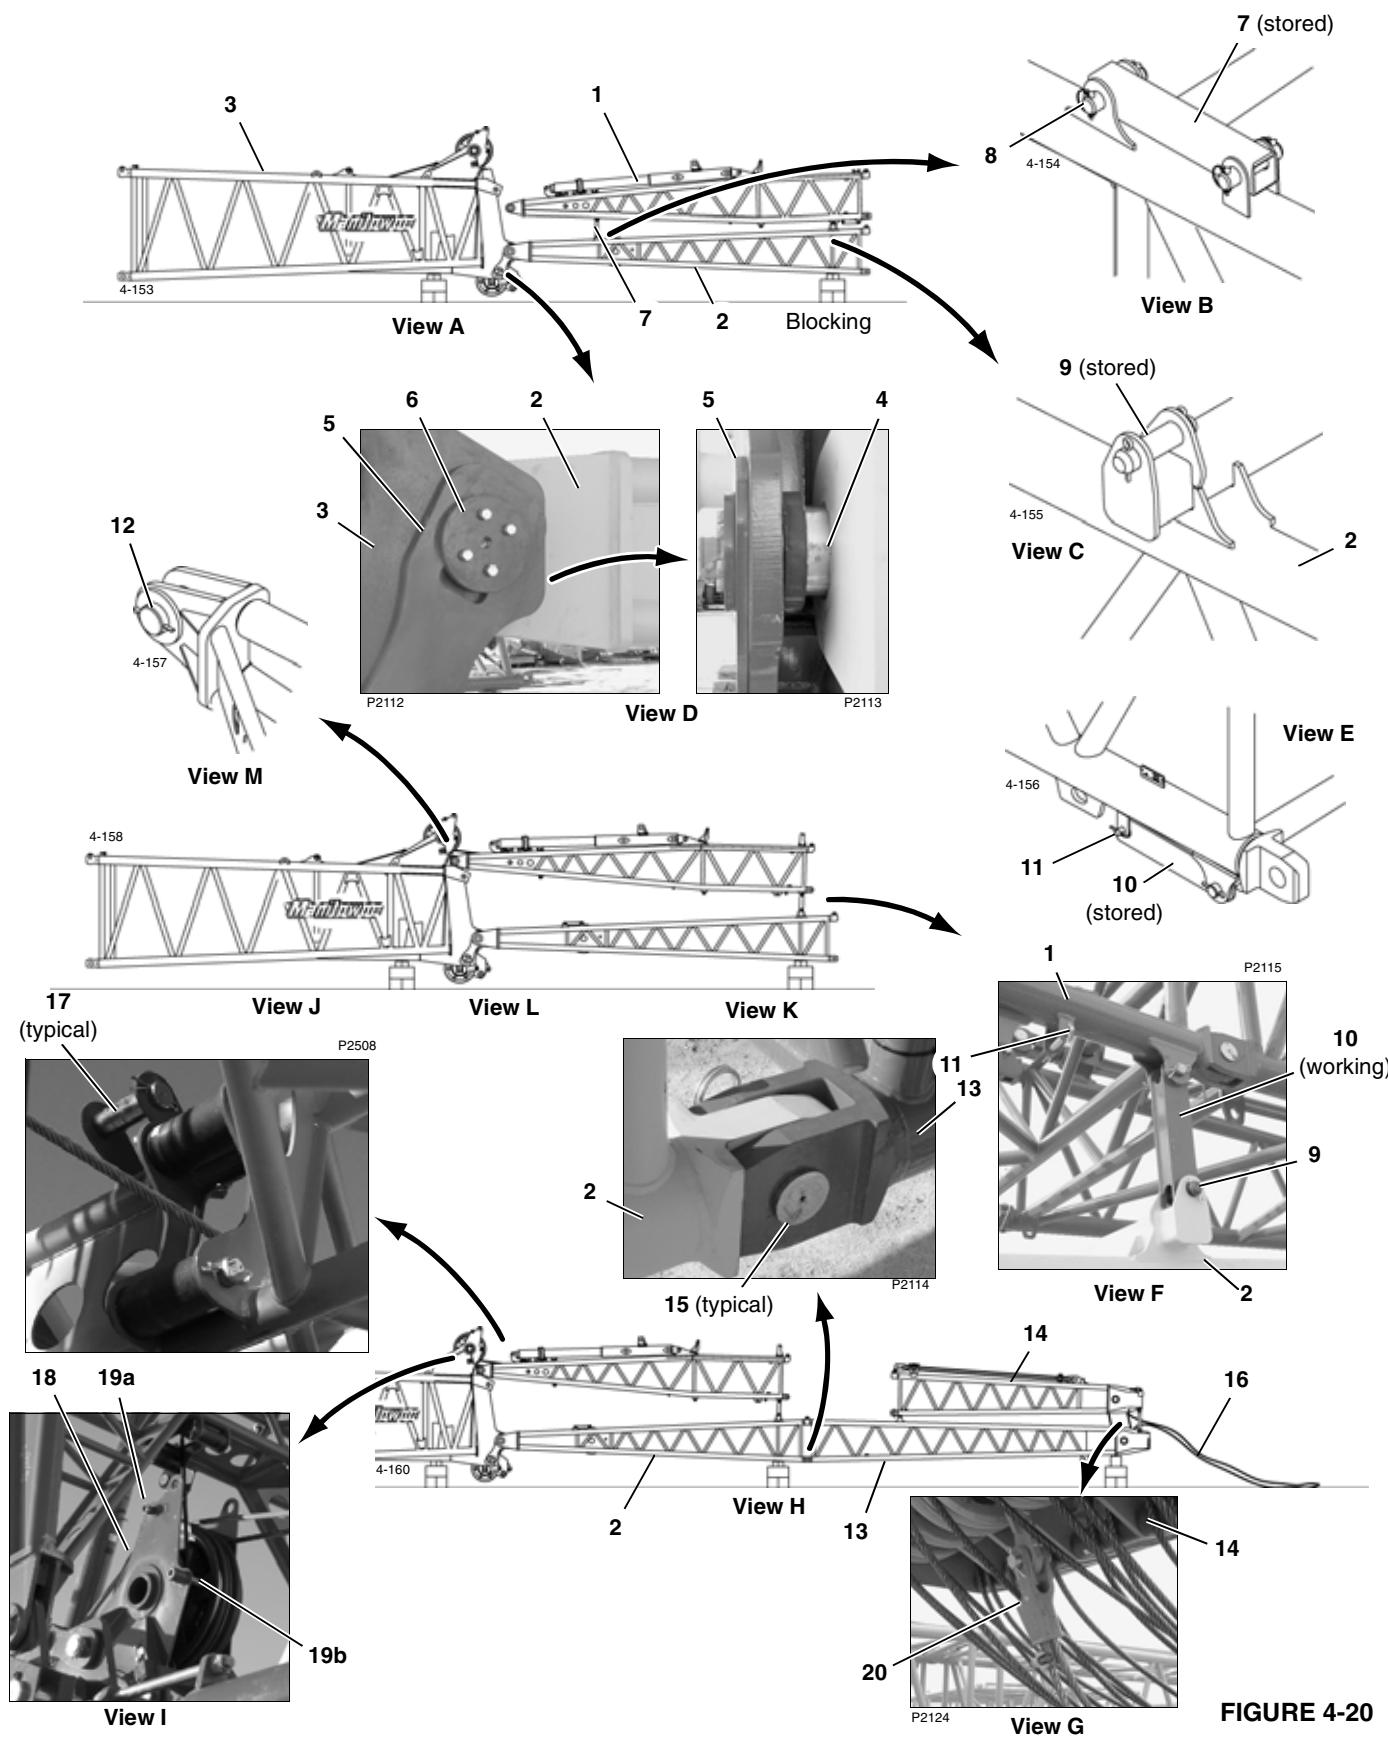

FIGURE 4-20
See Figure 4-20 for following procedure.
Shipping jib strut top (13) and main strut top (14) assembled as shown in Figure 4-20, View H allows reeving a sucker line through the luffing sheaves in the strut tops. See Luffing Jib Rigging Drawing for wire rope specifications.
Component Identification for Figure 4-20
Install bottom and top connecting pins (15, Figure 4-20, View K) and safety pins.